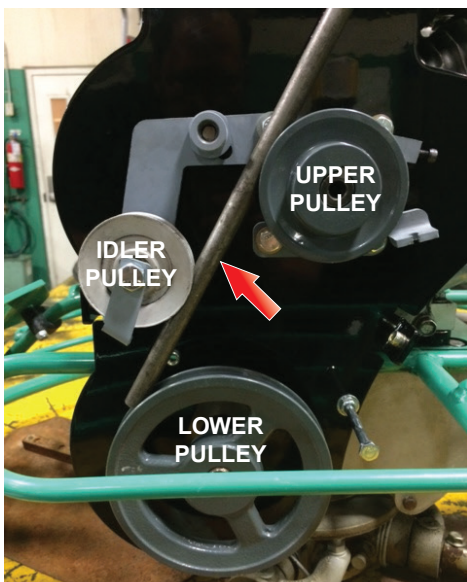

Figure 27. Pulley Alignment
3. Align all three pulleys (idler, upper, and lower) with a round, straight, 1/2-inch (12.7 mm) diameter rod, as shown in Figure 27.